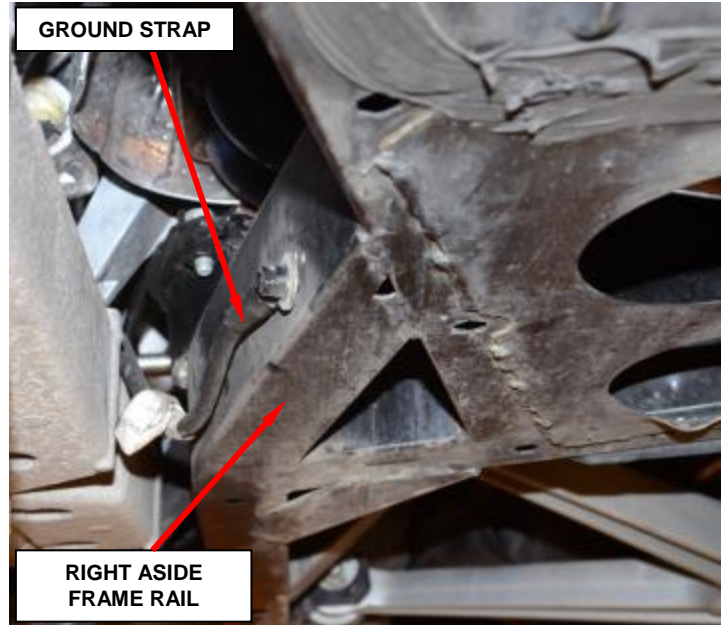

Figure 45 – Ground Strap
54. Disconnect the ground strap from the right side frame rail (Figure 45).
8. Install the ground strap to the right side frame rail and tighten securely (Figure 45).